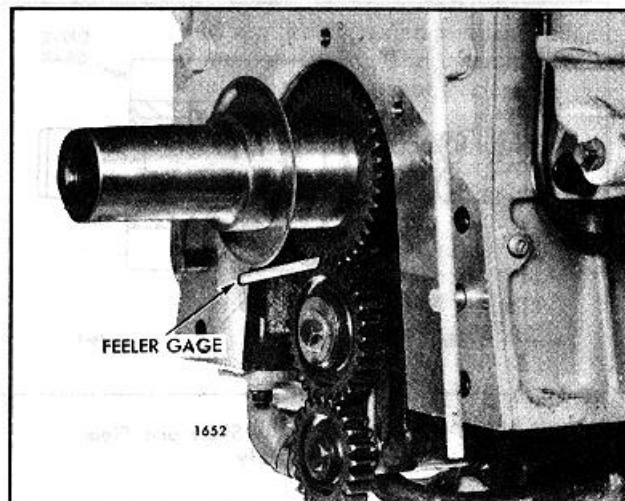

Fig. 10 - Measuring the Clearance Between the Teeth of the Oil Pump Driven Gears.
1. Hold the pump assembly against the main bearing caps so the idler gear (56) meshes with the driving gear on the crankshaft.
2. Insert the four bolts (55) with lock washers through the mounting feet of the pump and into the bearing caps (39). Align the pump so that the teeth of crankshaft gear and the idler gear are parallel; then tighten the bolts to 35-39 lb-ft and check clearance between the gear teeth with a feeler gage. Proper clearance between the crankshaft gear and idler gear is .005" minimum, .012" maximum (Fig. 10).